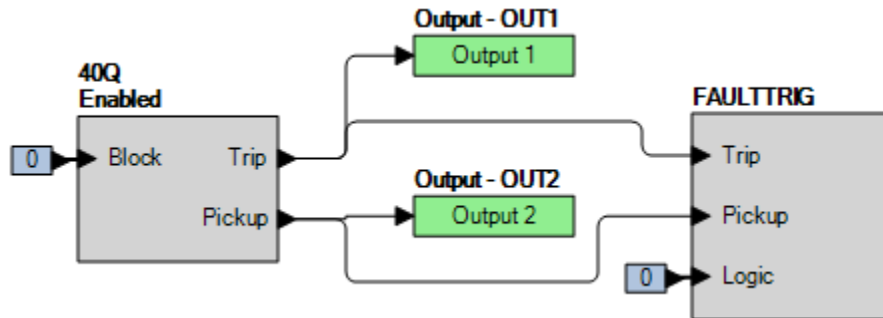

Figure 79-1. BESTlogicPi+ Settings
Step 2: Use BESTCOMSPi+ to configure the BESTlogicPi+ Programmable Logic shown in Figure 79-1.